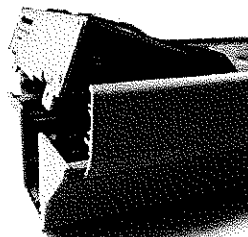

Figure 22: Removal of the Button Assembly
3. Slide the i-SIGNAL™ bracket with the LED (Figure 22) from its "seat" and replace with the new part.